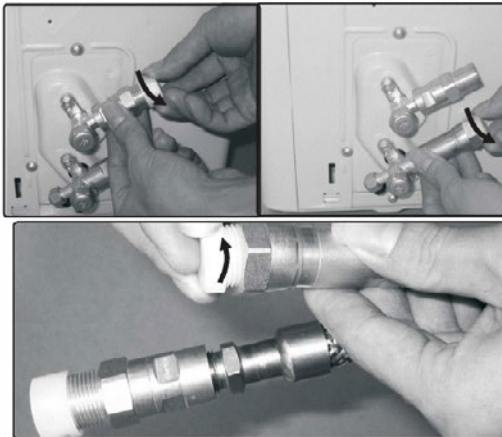

Fig. 6.2
- Do not remove the plastic seals from the outdoor unit and the appropriate refrigerant pipes until immediately before you need them, Fig.6.2